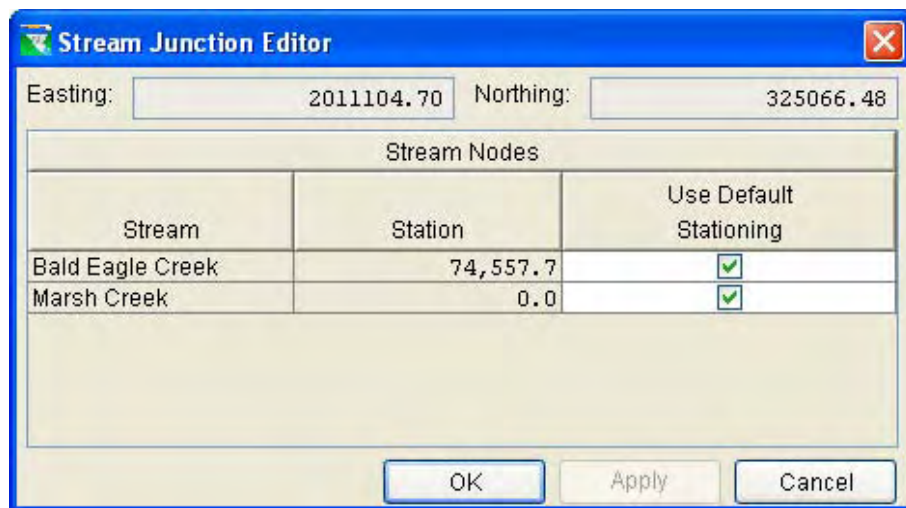

Figure 5.21 Stream Junction Editor
3. Select **Edit Junction** to open the **Stream Junction Editor** (Figure 5.21).